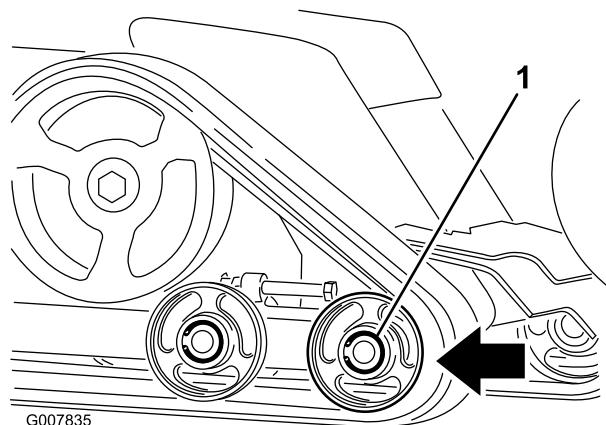

Figure 55
6. Push the front road wheel rearward as far as it can go (Figure 55).
8. When the track is off the road wheel, remove it from the machine (Figure 55).